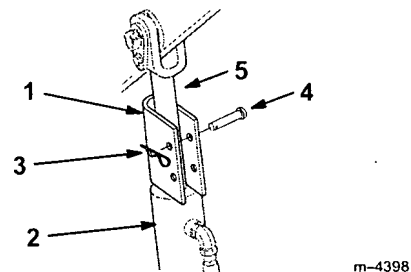

Figure 16
4. Position a loader arm cylinder lock over each lift cylinder rod (Fig. 16).
5. Secure each loader arm cylinder lock with a clevis pin and cotter pin (Fig. 16).